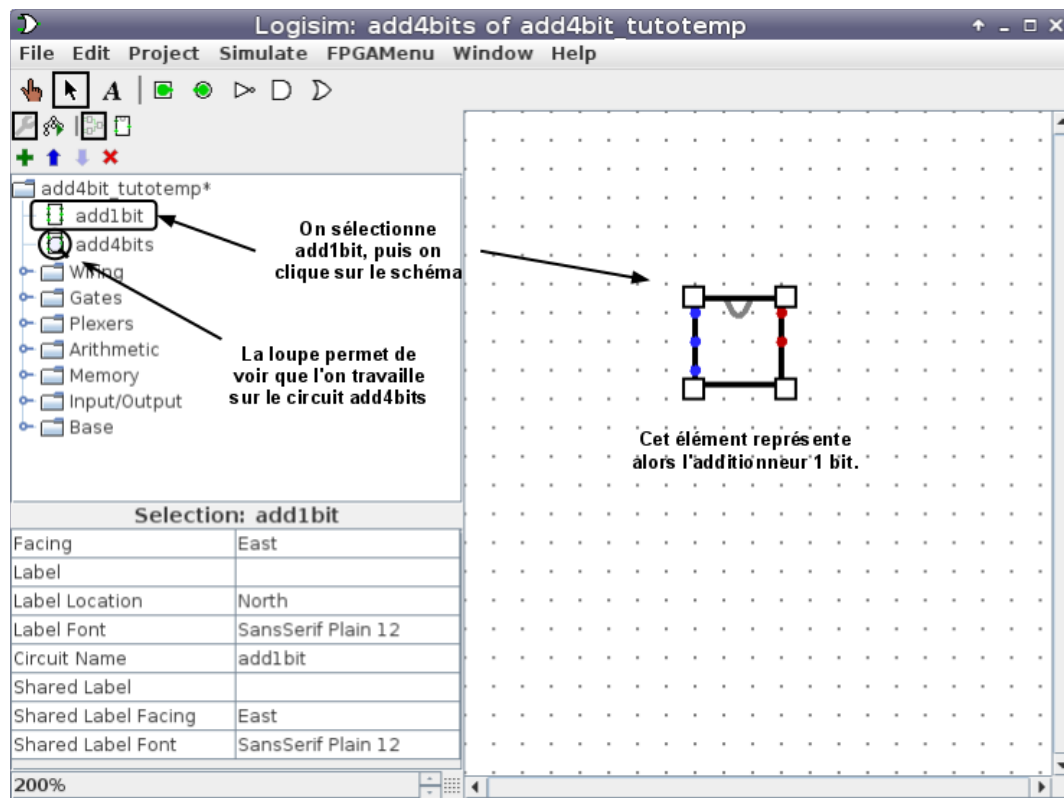

Figure 6: A subcircuit
2. It is then possible to add a sub-circuit. Add the 1-bit adder in the same way that you use any component. Click on the menu shown in Figure 6, and then place it by clicking on circuit diagram.